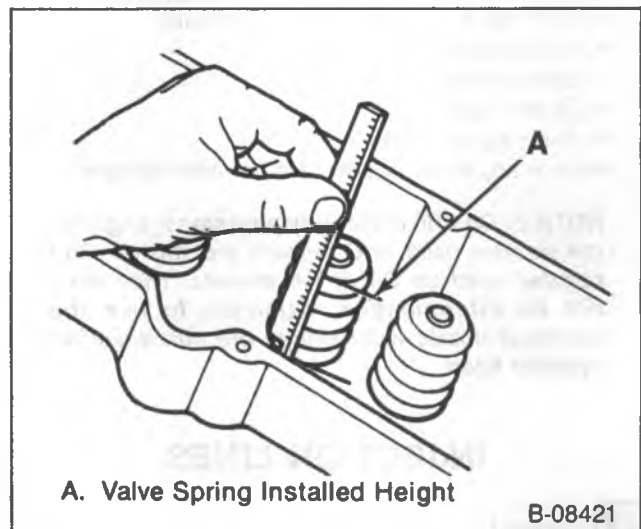

Figure 26—Measuring Valve Spring Installed Height (Typical)
- Measure from the valve shim or spring seat to the top of the shield (figure 26).